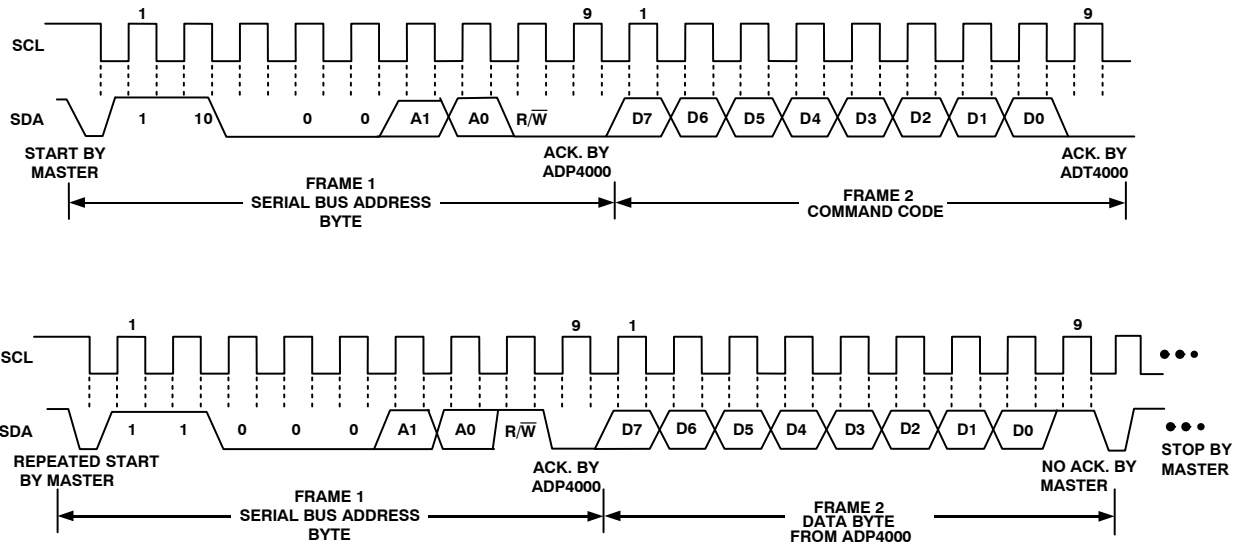

Figure 13. Read Byte
2. The read byte operation is shown in Figure 13. First the command code needs to be written to the ADP4000 so that the required data is sent back. This is done by performing a write to the ADP4000 as before, but only the data byte containing the register address is sent, because no data is written to the register. A repeated start is then issued and a read operation is then performed consisting of the serial bus address;  $R/\overline{W}$  bit set to 1, followed by the data byte read from the data register.